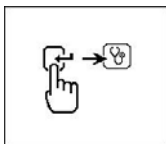

Fig.64
6. Once the Black clip is clamped onto the battery [-] terminal, the Analyser display will light up as shown. (Fig. 64)